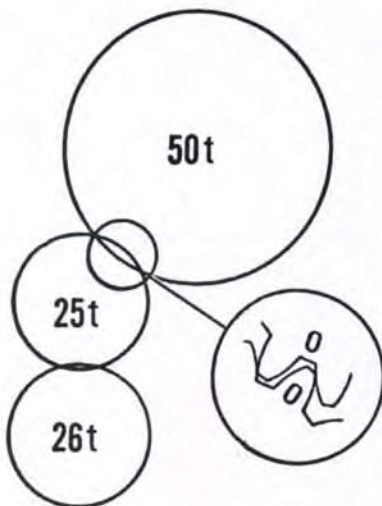

Fig. 20—Schematic view of timing gears used on Model L210, showing timing marks. The 26 tooth oil pump gear is not timed.
21. Valves are properly timed when timing marks are aligned as shown in Fig. 20, 21 or 22. Due to the odd size of idler gear, marks on that gear will align only occasionally when engine is running, and timing must be verified by removing gear and reinstalling it with timing marks in alignment. As an alternative to removing idler gear, installation can be checked by counting gear teeth between timing marks. Note also the positioning of shaft keyways as an indicator of correct timing.